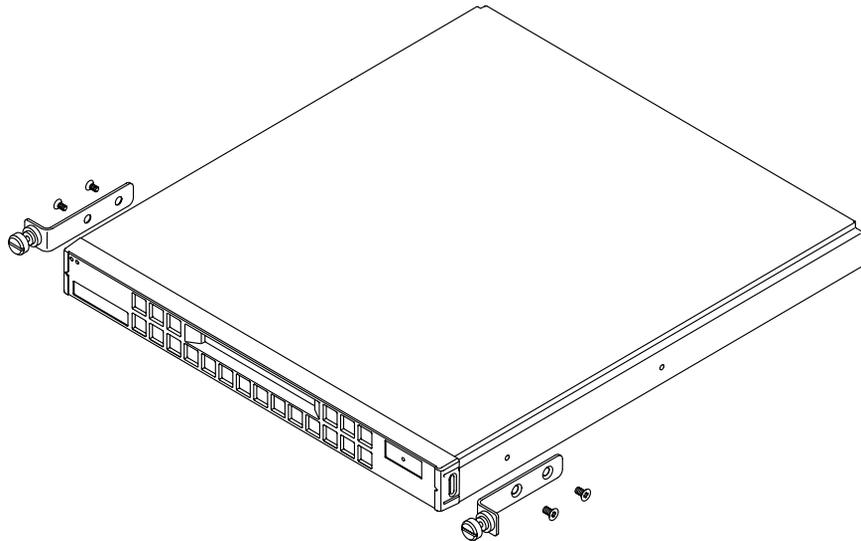

FIGURE 5-12 Removing the Thumbscrew Brackets
1. Remove the thumbscrew rack mounting brackets from either side of the system (see FIGURE 5-12).